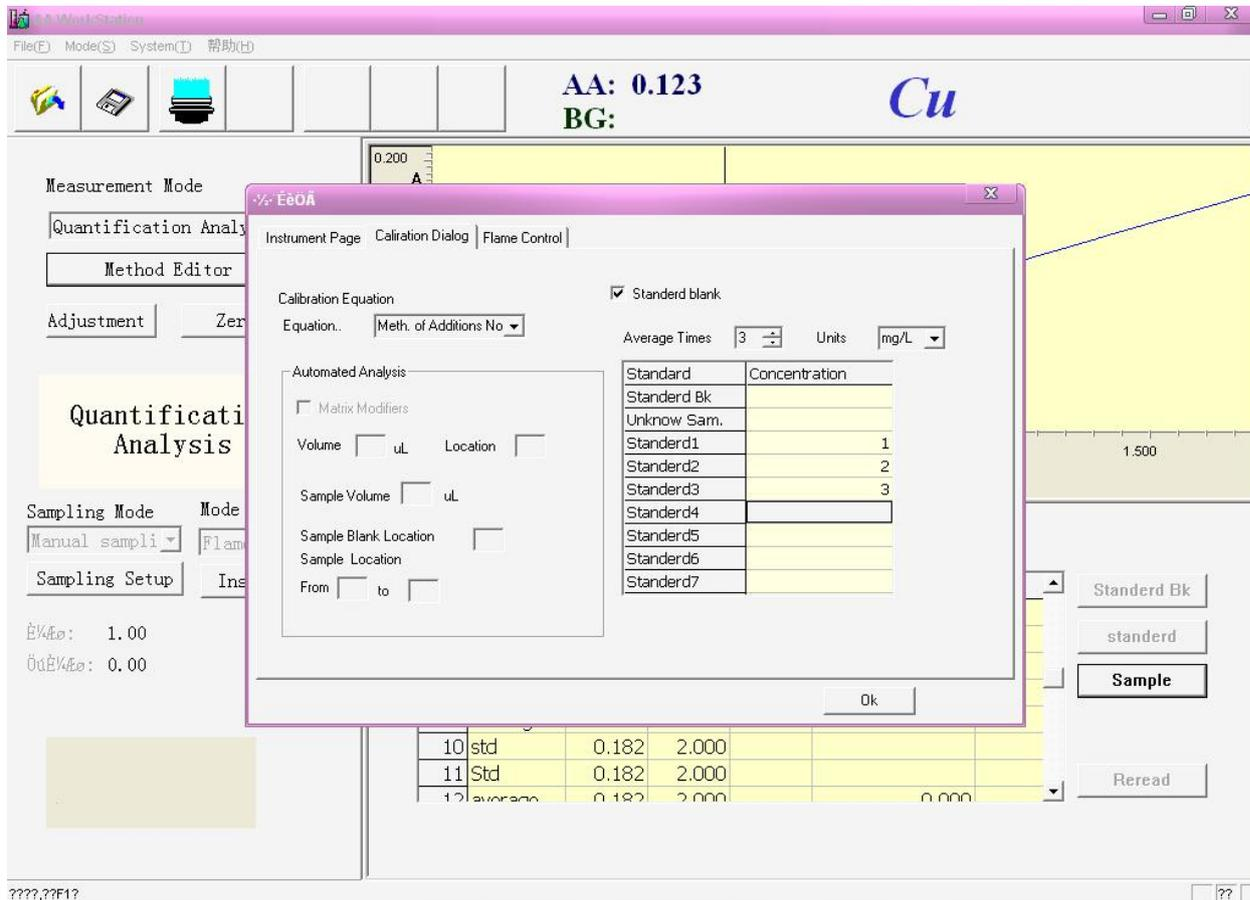

Figure 5-32
6. Select the “Meth.of Addition Nonlinear” in the “Calibration Equation”, figure 5-32